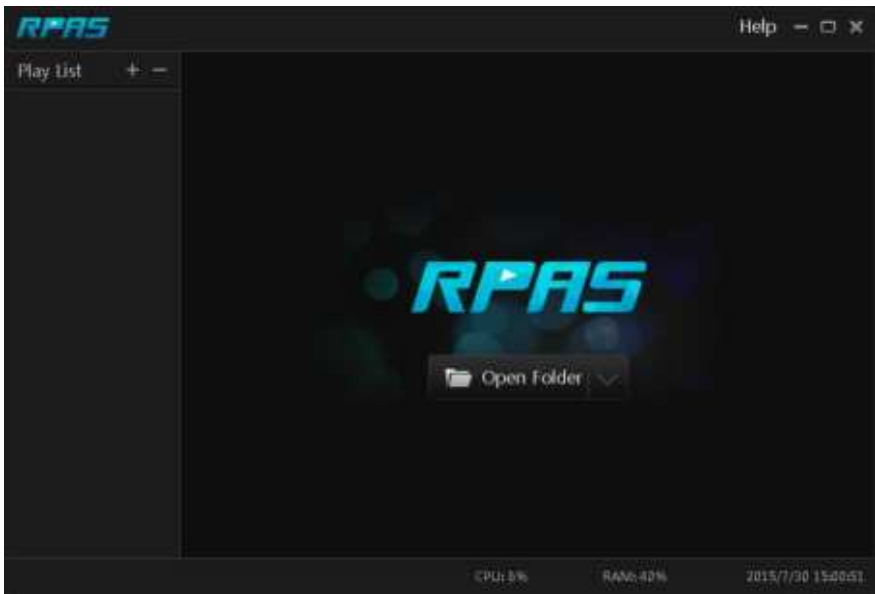

Fig 9-1
- If you select the private format when backing up recorded video by DVR, a RPAS compression package will be backed up to the USB device automatically along with the record data. Uncompress the “RPAS.zip” and then click “RPAS.exe” to set up RPAS. After the setup is completed, open RPAS player and then click the “Open Folder” button in the middle of the interface to select the record data. Refer to Fig 9-1.